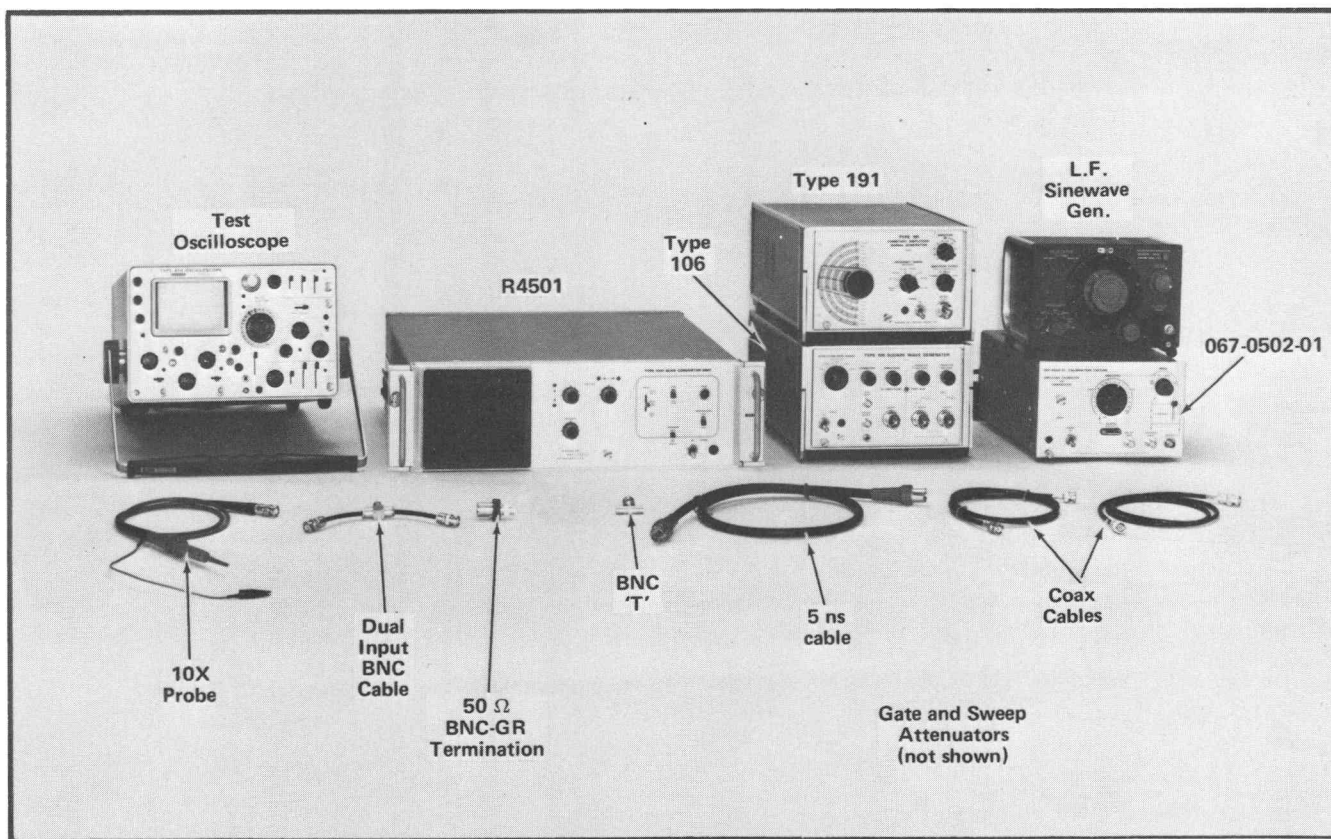

Fig. 5-15. Test equipment required for X-Y Axis calibration.
- a. Test equipment required is shown in Fig. 5-15.